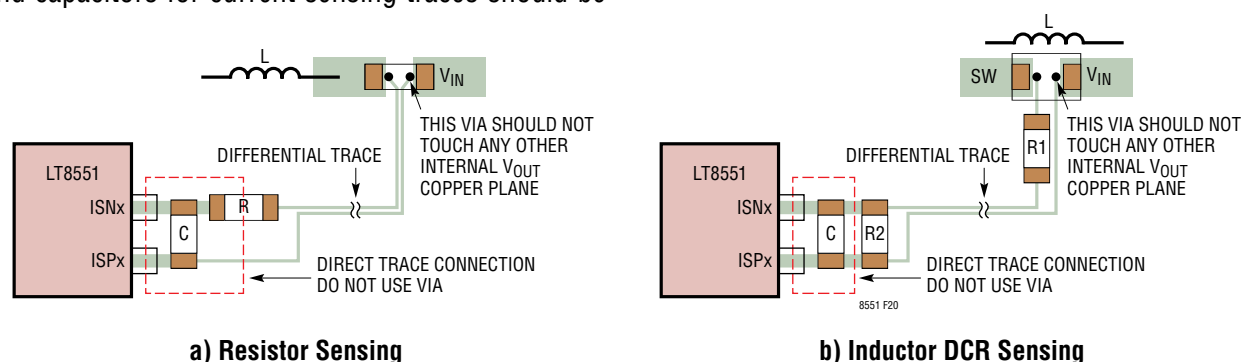

Figure 20. Current Sensing PCB Design
- Of all the small signal traces, current sensing traces are most sensitive to noise. The current sensing traces should be routed differentially with minimum spacing to minimize the chance of picking-up noise, as shown in Figure 20. In addition, the filter resistors and capacitors for current sensing traces should be placed as close to the ISPx/ISNx pins as possible. If the DCR sensing is used with an R/C network, the DCR sensing resistor R1 should be close to the inductor, while R2 and C should be close to the IC. Place the vias that connect the ISPx/ISNx lines directly at the terminals of the current sensing resistors or the inductors as shown in Figure 20.